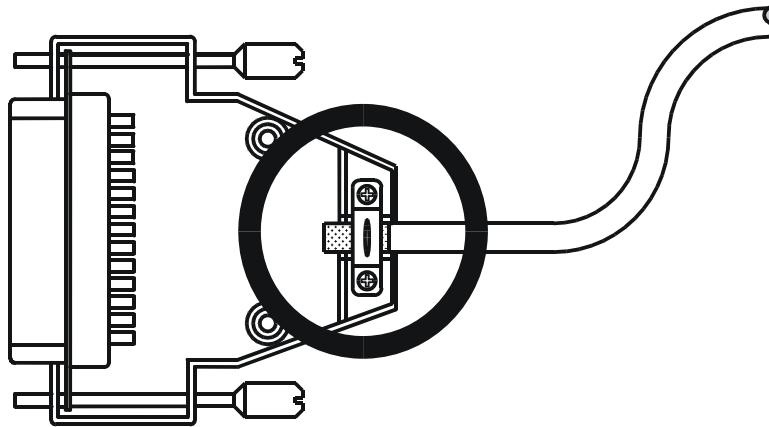

Fig. 2: Shielding of SUB-D connectors in conformity with the EMC standards
- Only use metallised connectors, e.g. SUB-D with metallised housing. Make sure that the strain relief is directly connected with the housing here as well (see fig. 2).